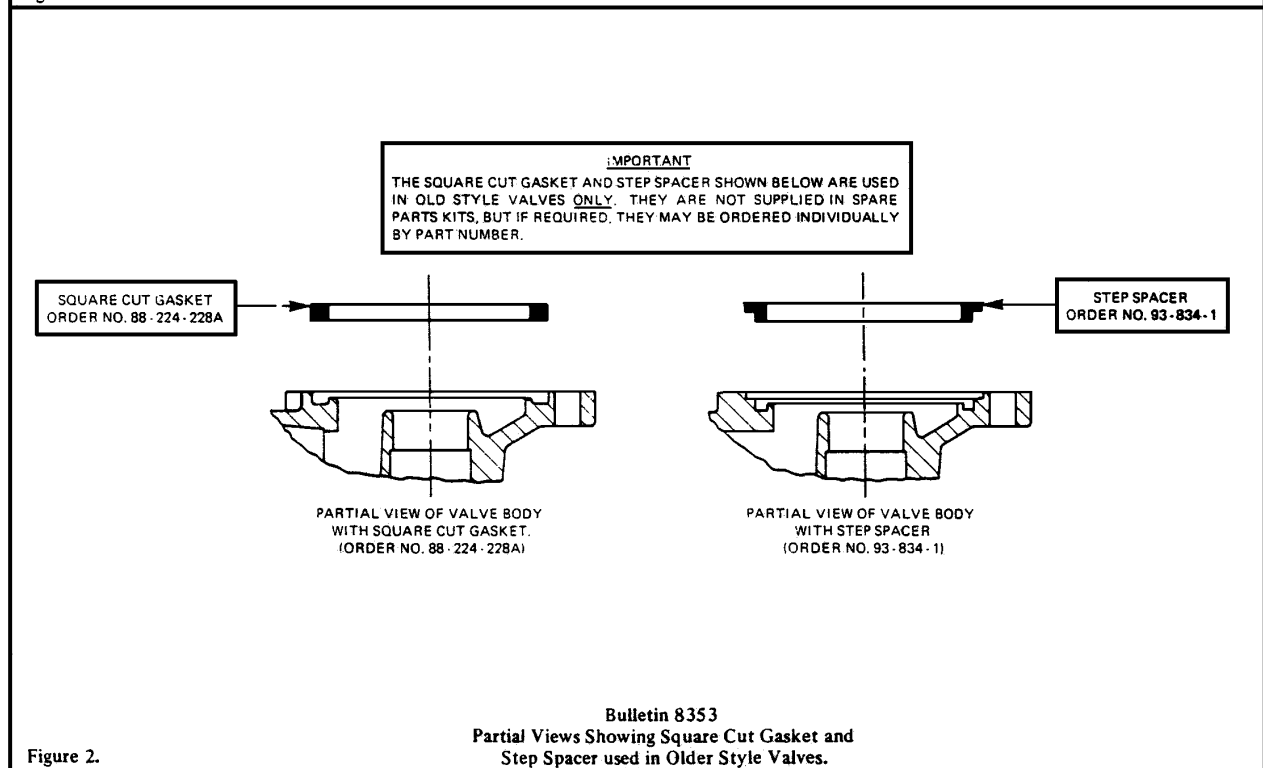

Figure 2.
1. Remove bonnet screws, valve bonnet, diaphragm spring and diaphragm assembly. If the valve you are disassembling contains a square cut gasket or a step spacer as shown in the sectioned view, Figure 2, the square cut gasket or step spacer need not be replaced unless damaged. If a replacement is required, order by the numbers indicated in Figure 2.
Valve Disassembly (see Figures 2, 3 & 4)